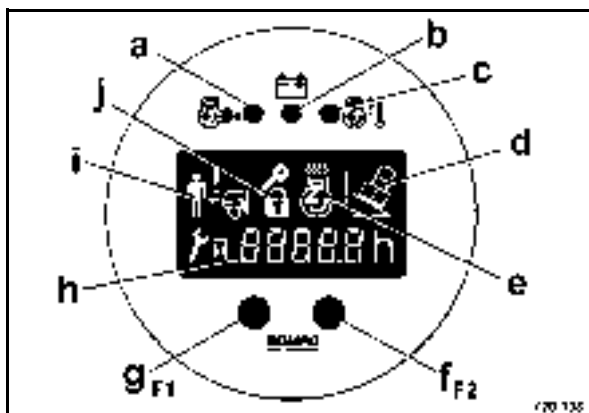

Fig. 84
- Keep both keys (F1/g and F2/f) depressed for two seconds (Fig. 84). The display shows „00000“, whereby the first digit is flashing.